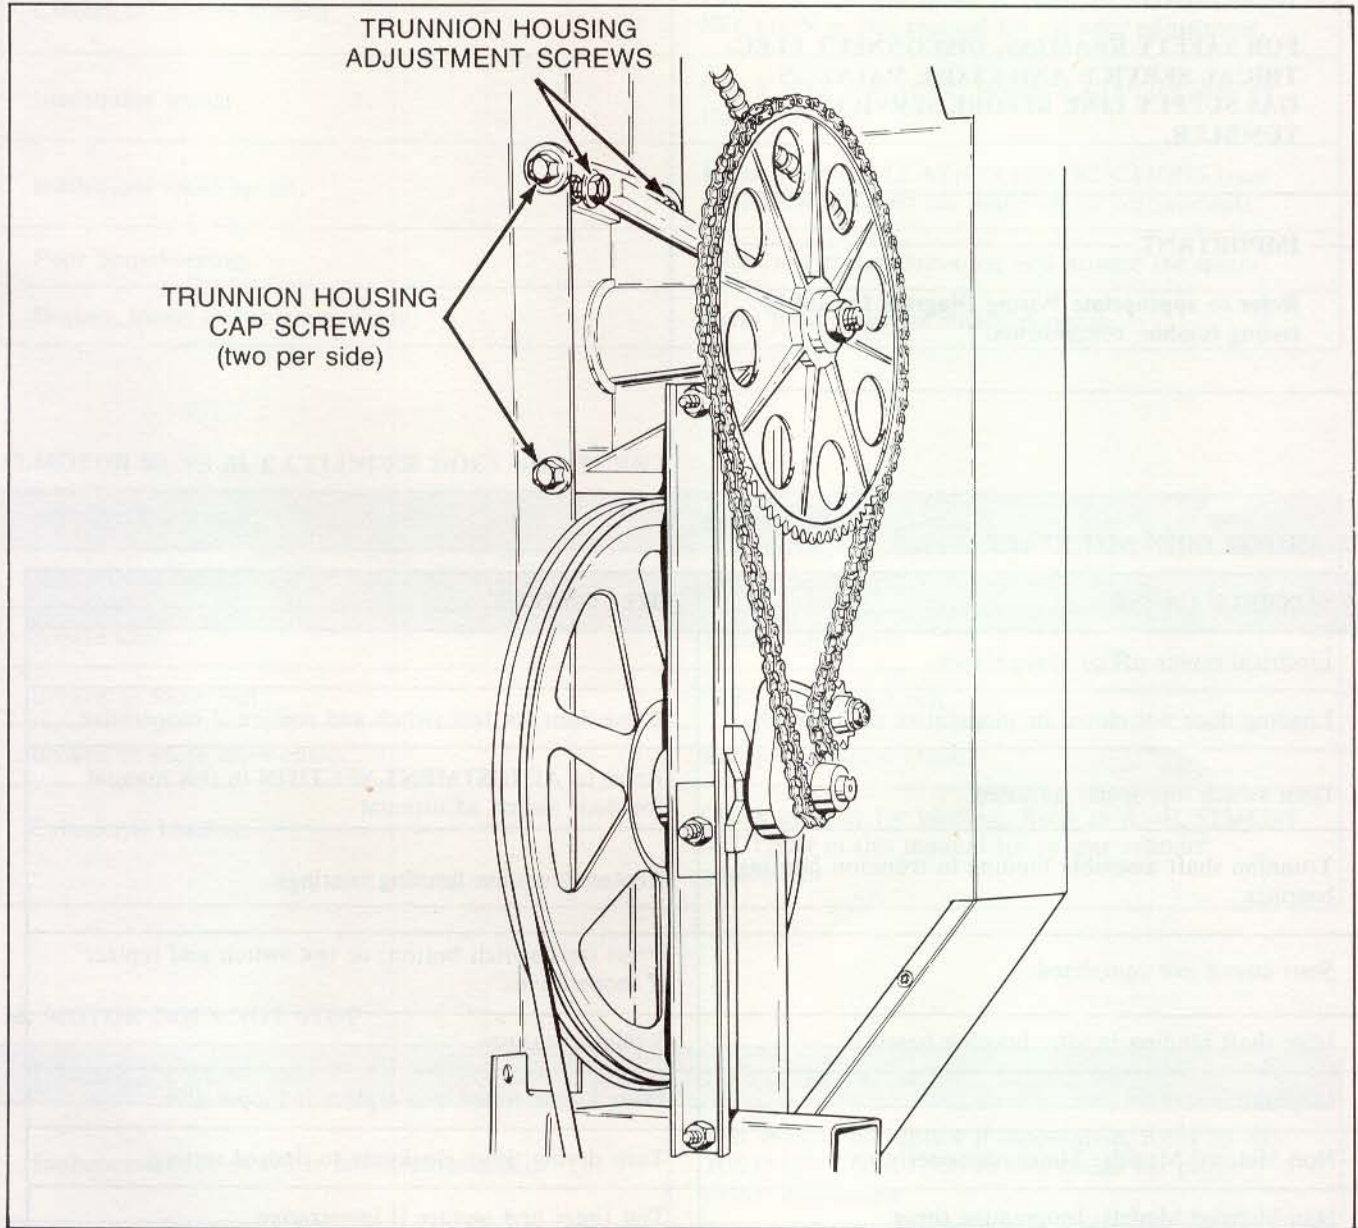

Figure 32
- c. Loosen the four trunnion housing cap screws, *Figure 32.*
- d. Loosen the locknuts on the trunnion housing adjustment screws, *Figure 32*.